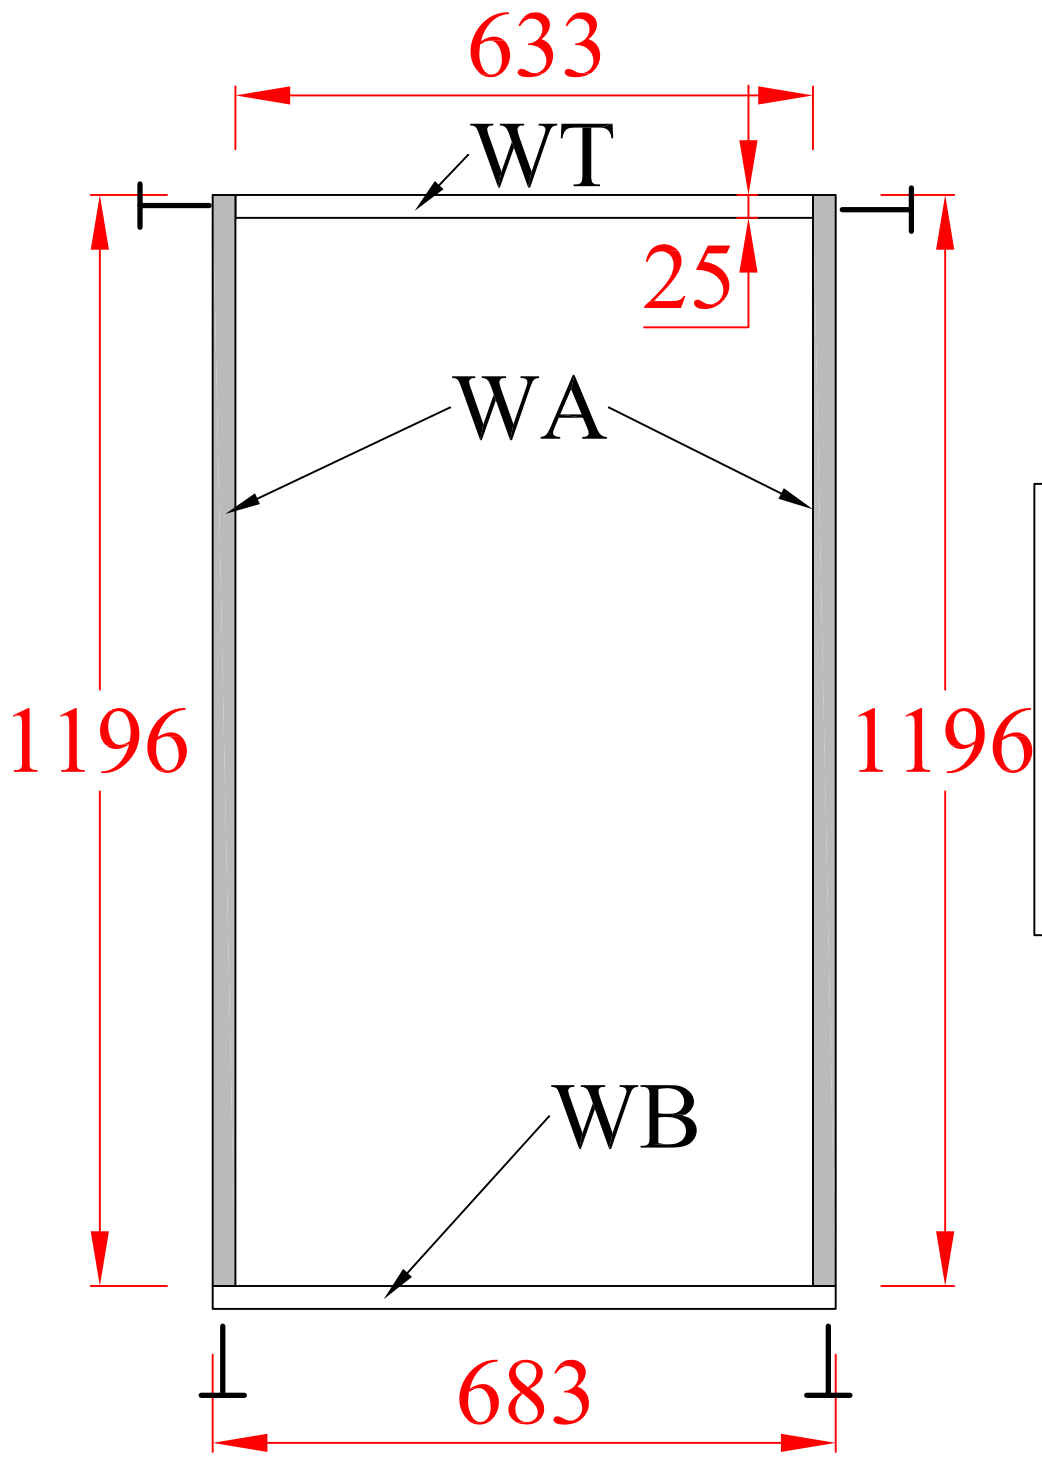

Fig A19
32. Fix the drip bar at the top of the window, there is a thin groove in one of the flat edges this needs to be facing the bottom of the building. Pre-drill holes and secure approx. 5mm above window inserts using 1 x 40mm screws. (figA19) , 50mm in at each end and approx 300mm centres